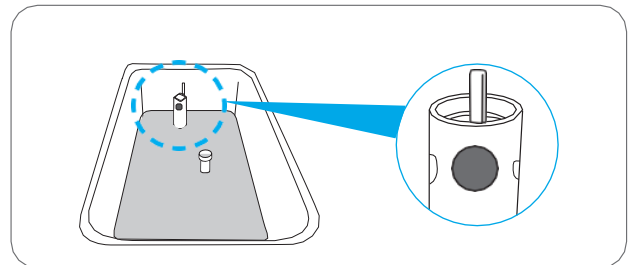

Figure 38
- Wait until the display shows “100%” then open the feed tube. (Figure 38) There are three holes in the feed tube. To do this, turn the feed tube until the middle hole is unplugged.